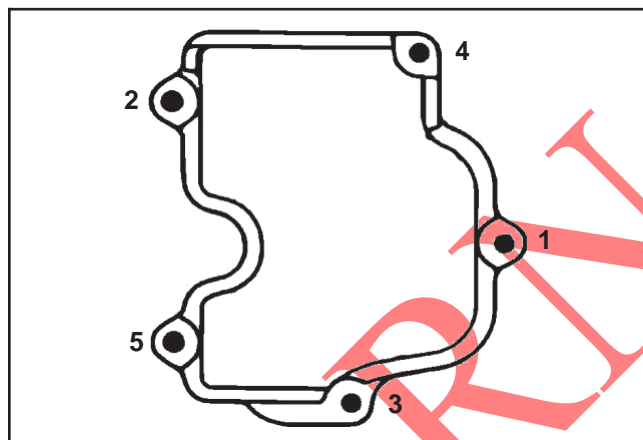

Figure 11-57. Valve Cover Torque Sequence.
4. Torque the screws in the sequence shown in Figure 11-57, as follows: